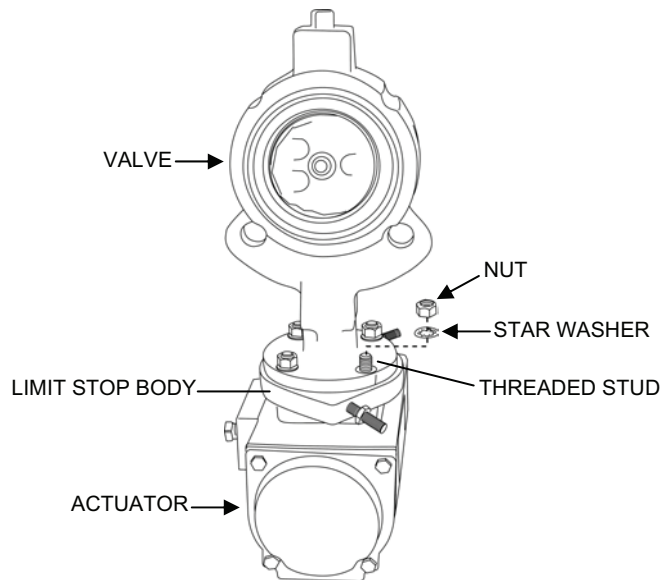

Figure 12. Valve V-113 Installation on the Limit Stop.
- g. Set the valve over the threaded studs and onto the limit stop body with the valve oriented as shown in Figure 12.